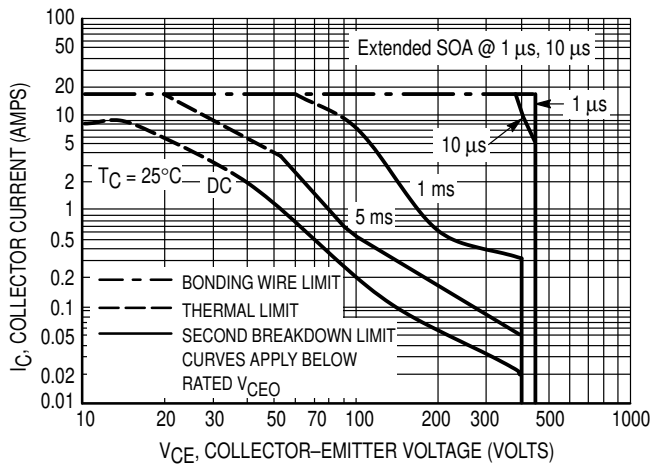
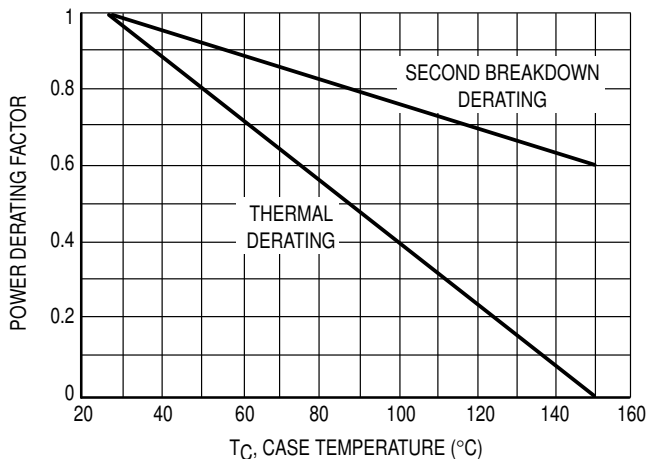

Figure 6. Maximum Forward Bias Safe Operating Area
Figure 8. Forward Bias Power Derating
The data of Figure 6 is based on $T_C = 25^\circ\text{C}$; $T_{J(pk)}$ is variable depending on power level. Second breakdown pulse limits are valid for duty cycles to 10% but must be derated when $T_C \geq 25^\circ\text{C}$. Second breakdown limitations do not derate the same as thermal limitations. Allowable current at the voltages shown on Figure 6 may be found at any case temperature by using the appropriate curve on Figure 8.
The sustaining or active region voltage requirements in switching applications occur during turn-on and turn-off. If the load contains a significant capacitive component, high current and voltage can exist simultaneously during turn-on and the pulsed forward bias SOA curves (Figure 6) are the proper design limits.
- (1) The device thermal limitations are not exceeded.
- (2) The turn-on time does not exceed $10 \mu\text{s}$ (see standard pulsed forward SOA curves in Figure 6).